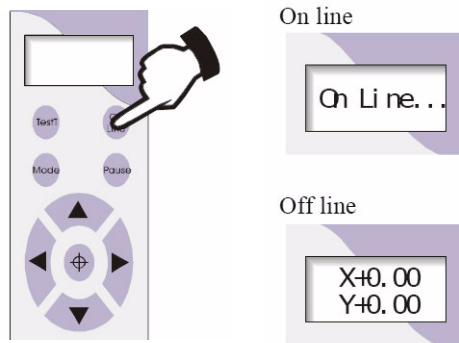

Figure 17
- b Turn on the Creative Cutter Mighty. When the words *On Line* to appear on the LCD screen, press the **On Line** button on the control panel one time. When the **X** and **Y** coordinates display, the cutter is offline. See figure 17.